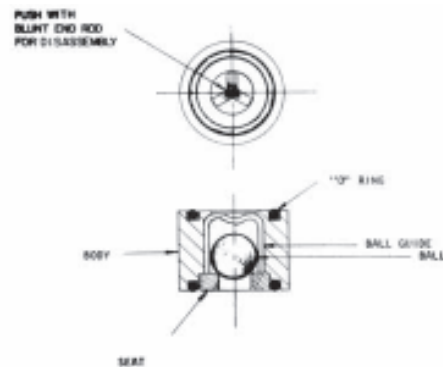

Fig. 9 - Check Valve Assembly Model 1730 and Model 1740 Units
**\*Ball Type Check Valves (Refer to Fig. 9)**